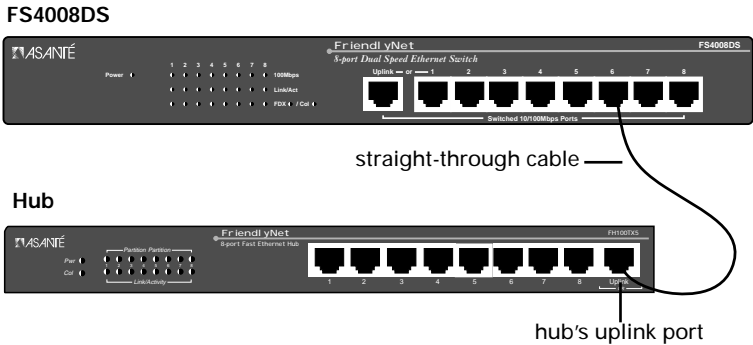

Figure 2-9 Connecting a hub to the Switch
- ❑ Connect the hub's **uplink** port to any of the Switch's ports (1 – 4 for the FS4004DS or 1 – 8 for the FS4008DS). See Figure 2-9.